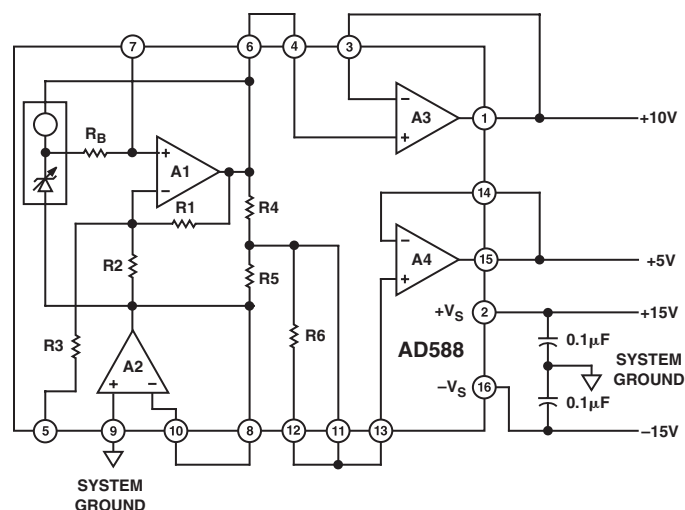
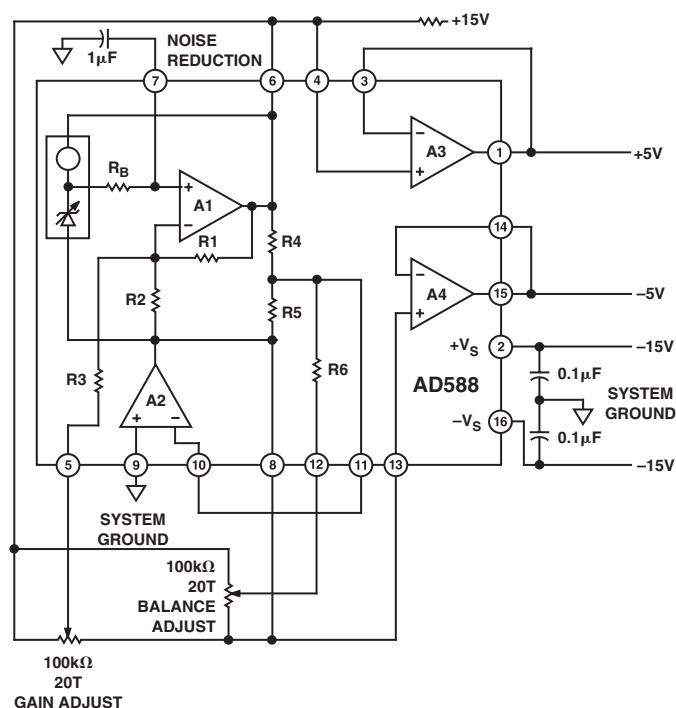
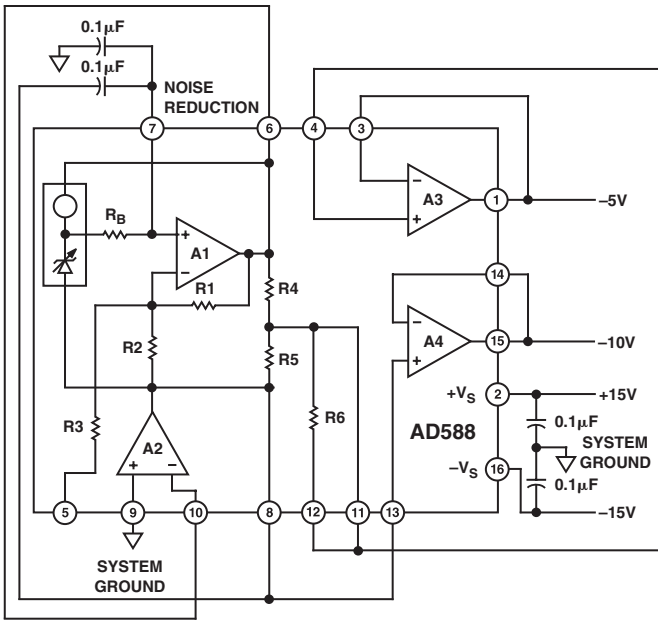
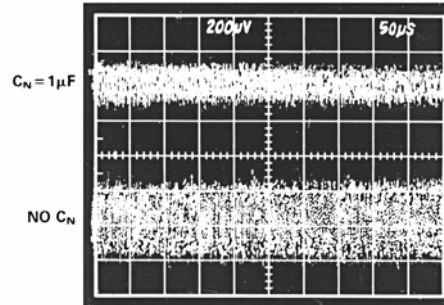

Figure 2a. +10 V Output
Figure 2b. +5 V and -5 V Outputs
Figure 2c. -10 V Output
Figure 4. Effect of 1 μF Noise Reduction Capacitor on Broadband Noise
+10 V	Figure 2a
-10 V	Figure 2c
+5 V, -5 V, ±5 V	Figure 2b
The AD588 can be configured to provide +10 V and -10 V reference outputs as shown in Figures 2a and 2c, respectively. It can also be used to provide +5 V, -5 V, or a ±5 V tracking reference, as shown in Figure 2b. Table I details the appropriate pin connections for each output range. In each case, Pin 9 is connected to system ground and power is applied to Pins 2 and 16.
The architecture of the AD588 provides ground sense and uncommitted output buffer amplifiers that offer the user a great deal of functional flexibility. The AD588 is specified and tested in the configurations shown in Figure 2a. The user may choose to take advantage of the many other configuration options available with the AD588. However, performance in these configurations is not guaranteed to meet the extremely stringent data sheet specifications.
As indicated in Table I, a +5 V buffered output can be provided using amplifier A4 in the +10 V configuration (Figure 2a). A -5 V buffered output can be provided using amplifier A3 in the -10 V configuration (Figure 2c). Specifications are not guaranteed for the +5 V or -5 V outputs in these configurations. Performance will be similar to that specified for the +10 V or -10 V outputs.
Amplifiers A3 and A4 can be used interchangeably. However, the AD588 is tested (and the specifications are guaranteed) with the amplifiers connected as indicated in Figure 2a and Table I. When either A3 or A4 is unused, its output force and sense pins should be connected and the input tied to ground.
Figure 2b shows GAIN and BALANCE trims in a +5 V and -5 V tracking configuration. A 100 k Ω 20-turn potentiometer is used for each trim. The potentiometer for GAIN trim is connected between Pin 6 (V_{HIGH}) and Pin 8 (V_{LOW}) with the wiper connected to Pin 5 (GAIN ADJ). The potentiometer is adjusted to produce exactly 10 V between Pin 1 and Pin 15, the amplifier outputs. The BALANCE potentiometer, also connected between Pin 6 and Pin 8 with the wiper to Pin 12 (BAL ADJ), is then adjusted to center the span from +5 V to -5 V.
If further noise reduction is desired, an optional capacitor, C_N , may be added between the NOISE REDUCTION pin and ground, as shown in Figure 2b. This will form a low-pass filter with the 4 k Ω R_B on the output of the Zener cell. A 1 μF capacitor will have a 3 dB point at 40 Hz and will reduce the high frequency (to 1 MHz) noise to about 200 μV p-p. Figure 4 shows the 1 MHz noise of a typical AD588 both with and without a 1 μF capacitor.
Note that a second capacitor is needed in order to implement the NOISE REDUCTION feature when using the AD588 in the -10 V mode (Figure 2c.). The NOISE REDUCTION capacitor is limited to 0.1 μF maximum in this mode.